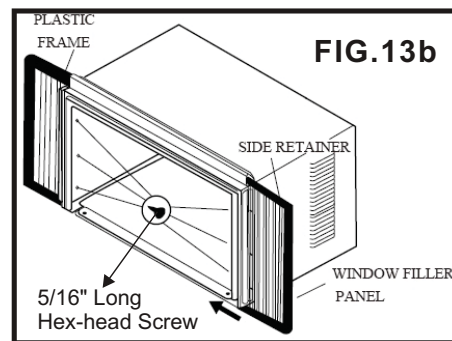

FIG.13b
5. Insert top and bottom legs of window filler panel frame into channel in the top angle and bottom rail. Do both sides. Install side retainer to cabinet as shown. (FIG.13b-14).